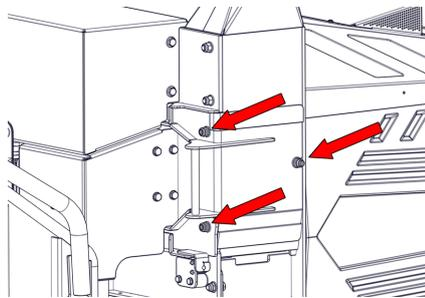

Figure 20 - Rotor Housing Access Hatch
3. Remove the nuts and washers retaining the rotor housing blade access hatch and remove the hatch (Figure 20).